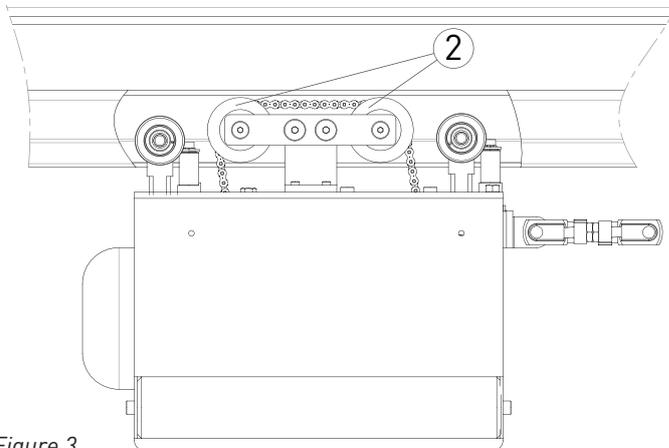

Figure 3.
STEP 5: The friction wheels (drive wheel f/n 2) should not be in contact with the upper face of the track profile. See Figure 3.